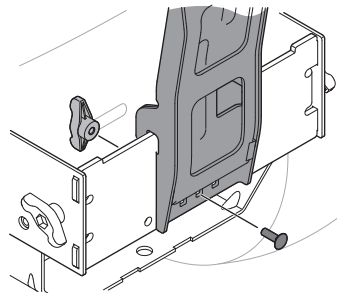

Figure 10
3. Secure the vertical bagger support to the cross mounting bracket using a carriage bolt (710-0276) and wing knob (720-04122) from hardware pack 689-02364. See Figure 10.